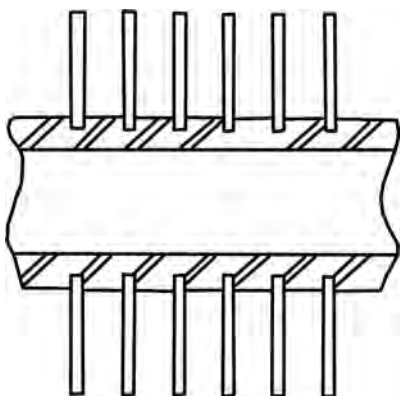

FIGURE 13.2 Embedded fin.
- *Embedded Fins (Figure 13.2)*: In high-temperature applications, an embedded process is employed to attach the fin to the tube wall. In this process, a groove is actually cut into the tube, the fin strip inserted, and the tube material then *plowed back* against the fin to bond it to the tube. Separation of the fin and tube due to corrosion or temperature differentials are not a factor with this fin type.